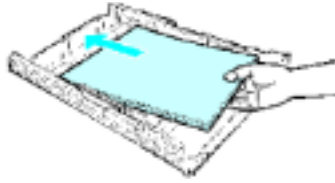

Figure 25. Adding media
4. Add the media and make sure it is flat in the tray at all four corners. Keep the media below the height tabs on the paper length guide in the rear of the tray as shown in Figure 25.